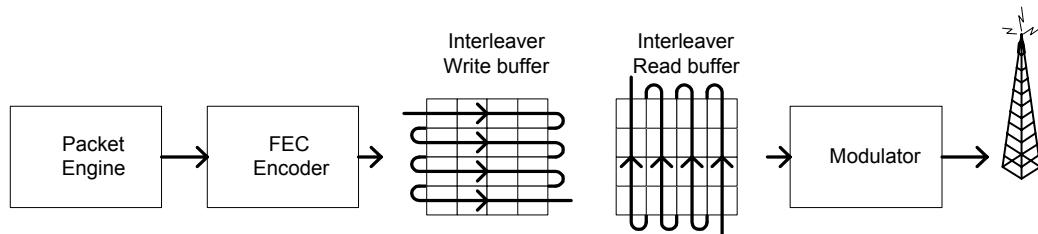

Figure 12: General Principle of Matrix Interleaving
**CC2550** employs matrix interleaving, which is illustrated in Figure 12. The on-chip interleaving buffer is a  $4 \times 4$  matrix. The data bits from the rate  $\frac{1}{2}$  convolutional coder are written into the rows of the matrix, whereas the bit sequence to be transmitted is read from the columns of the matrix. Conversely, in a **CC2500** [9] receiver, the received symbols are written